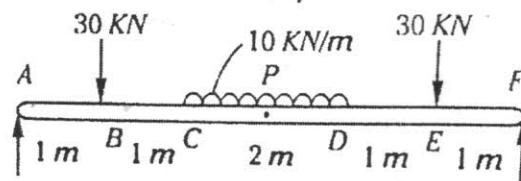

Fig. 6(a)
6. a) A simply supported beam AB of 6m span is loaded as shown in fig. 6(a). Draw the bending moment diagram if reaction force at A and F are 40kN each upward. Also indicate the point of contra flexure if any.